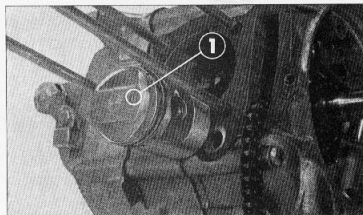

Figure 29. ① Arrow mark
- When assembling the piston to the connecting rod, make sure that the **arrow marked on the piston head is pointing downward**. (Fig. 29)